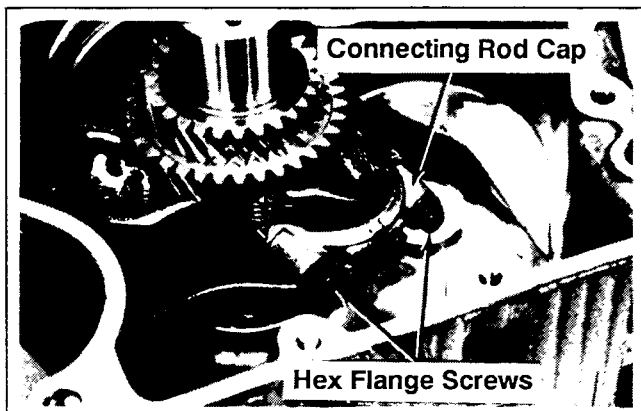

Figure 11-9. Installing Connecting Rod Fasteners.
5. Install the hex flange screws and torque in increments to 22.6 N·m (200 lbf·in). See Figure 11-9.